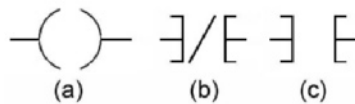

Figure 5-18 Instructions for question 23.
23. Identify the relay ladder logic instructions shown in Figure 5-18. 23a._____